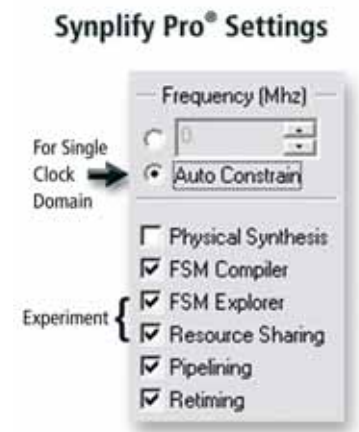

Figure 2 – Recommended Synplify Pro settings
- Explore the synthesis tool settings. (See Figure 2 for Synplify and Figure 3 for Xilinx Synthesis Technology [XST] suggested tool settings.) There are also a variety of attributes that can affect synthesis optimizations. These attributes are an easy way to affect synthesis without having to re-code (see Table 1).